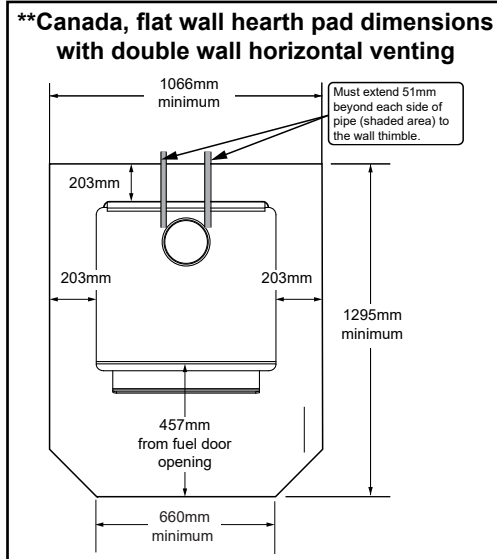

Figure 13.2 - **These dimensions will vary depending installation.
In Canada, similar floor protection must be provided 18 inches (457mm) in front and 8 inches (203mm) from the sides and rear of the appliance unless the hearth pad is placed against the wall (**for 43M-ACC-C see Figure 13.2 on page 13 or for 43ST-ACC-C see 14.2 on page 14**). Then the clearance may be reduced using double wall pipe and the Clearance to Combustibles table listed on **page 15**.
***Exception:** Non-combustible floor protector must extend beneath the flue pipe when installed with horizontal venting and extend 2 inches (51mm) beyond each side (**for 43M-ACC-C see Figure 13.2 on page 13 or for 43ST-ACC-C see 14.2 on page 14**).